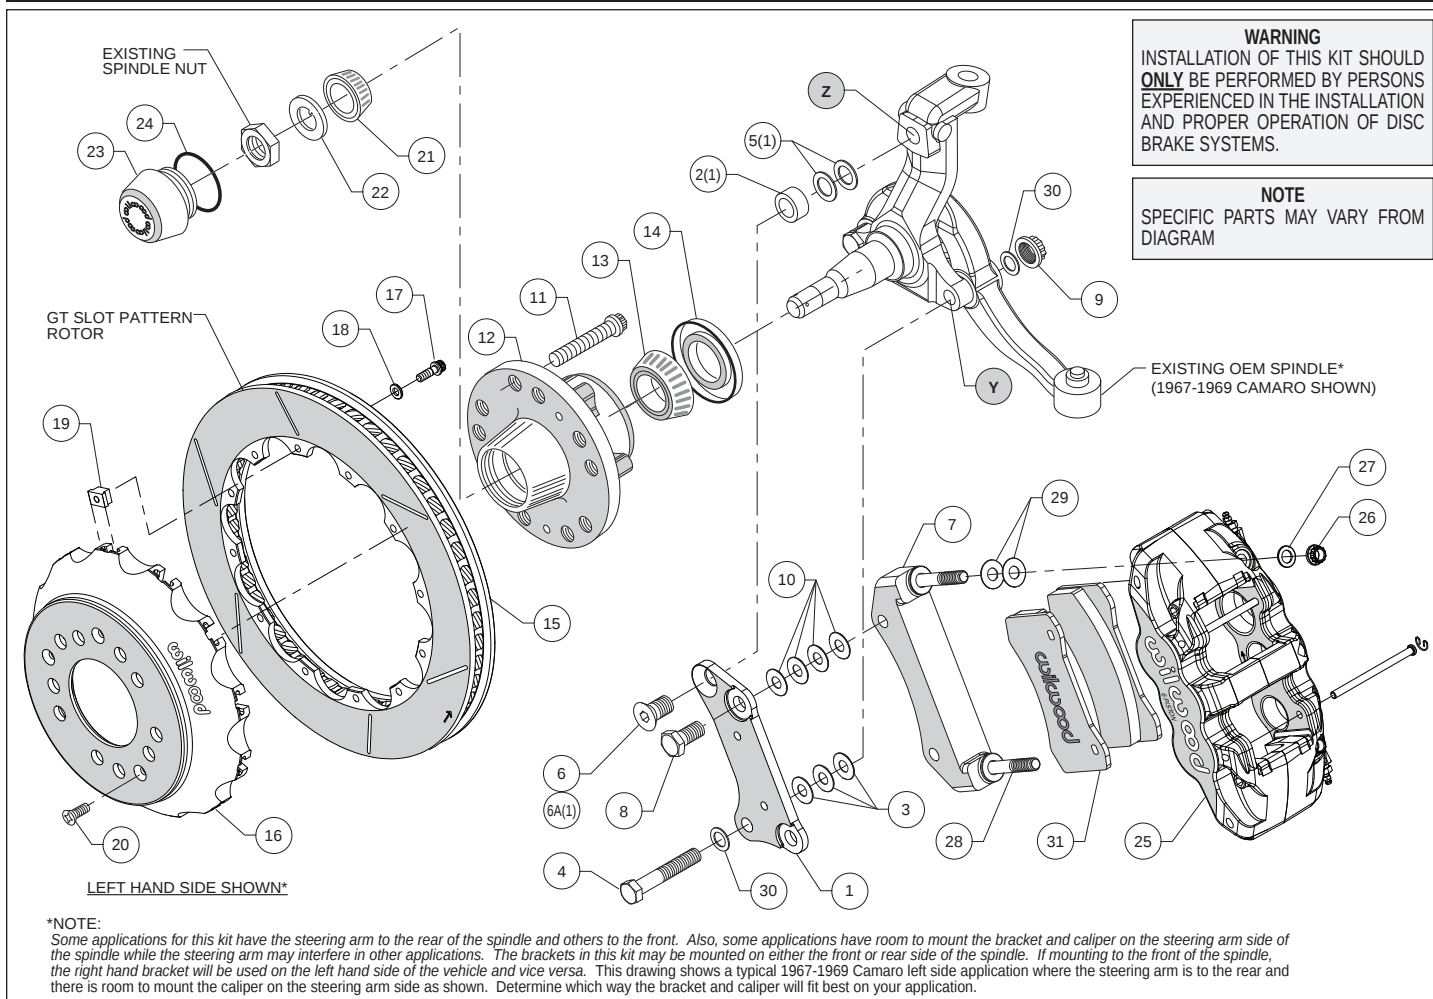
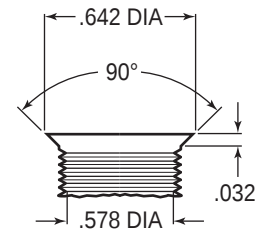
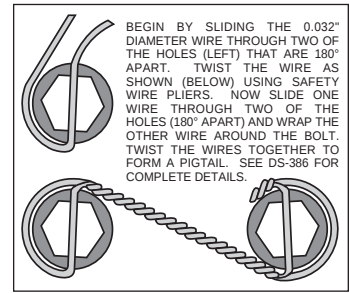

Figure 1. Typical Installation Configuration
Figure 3. Drill and Tap Detail
Figure 4. Safety Wire Diagram
Assembly Instructions (numbers in parenthesis refer to the parts list, and Figure 1 on the preceding pages):
•**NOTE:** Some applications for this kit have the steering arm to the rear of the spindle and others to the front. Also, some applications have room to mount the bracket and caliper on the steering arm side of the spindle while the steering arm may interfere in other applications. The brackets in this kit may be mounted on either the front or rear side of the spindle. If mounting to the front of the spindle, the right hand bracket will be used on the left hand side of the vehicle and vice versa. Figure 1 shows a typical 1967-1969 Camaro left side application where the steering arm is to the rear and there is room to mount the caliper on the steering arm side as shown. Determine which way the bracket and caliper will fit best on your application.
•**NOTE:** Some spindles in this year range may require the following modifications (reference Figure 1 and Figure 3): Top anchor pin hole (Z) must be drilled and tapped to the dimensions as outlined in Figure 3. The lower bolt hole (Y) in the spindle used to mount the new caliper bracket, and the mating steering arm hole, must be enlarged to .50" by drilling. It is recommended these modifications be performed by a qualified machinist.
•Install wheel studs (11) into the hub (12), Figure 1 and Photo 1. Torque to 77 ft-lb. **NOTE:** There are two five lug patterns in the hub (5 x 4.50 and 5 x 4.75). Ensure the correct hub stud pattern is being used to fit the wheel application.
•Pack the large inner bearing cone (13) with high temperature disc brake bearing grease (available from your local auto parts store) and install into the backside of the hub (12), Photo 2.
•Install the grease seal (14) by pressing into the backside of the hub (12), flush with the end of the hub, Photo 2.
•Orient the rotor (15) and the hat (16) as shown in Figure 1 and Photo 3. Attach rotor to hat using bolts (17), washers (18), and t-nuts (19). Using an alternating sequence, apply red *Loctite*® 271 to the threads, and torque to 120 in-lbs. Safety wire bolts using standard 0.032 inch diameter stainless steel safety wire as shown in Figure 4. Please refer to Wilwood's data sheet DS-386 (available at www.wilwood.com/Pdf/DataSheets/ds386.pdf) for complete safety wire installation instructions.
•**Disc Brake Spindle Application Only:** Follow the instructions below, but instead use bolt (6A), spacer (2), and two .050" thick shims (5) in the upper bolt hole location, Figure 1.
•Orient the flat bracket (1) as shown in Figure 1 and Photo 4, and install using bottom bolt (4), washers (30), and nut (9), Figure 1. Initially place three .032" thick shims (3) between the bracket and spindle. Install the upper bolt (6 or 6A), Photo 5. Temporarily tighten bolts. **NOTE:** The bracket must fit squarely against the mounting surfaces on the spindle. Inspect for interference from casting irregularities, machining ridges, burrs, etc. Temporarily install the hub and hat/rotor assembly. Check that the bracket is aligned parallel to the rotor, Photo 6. If not, adjust by adding or subtracting shims (3) on the lower bolt between the bracket and spindle, Figure 1. Once the bracket alignment is correct, remove the upper bolt (6 or 6A), apply red *Loctite*® 271 to the bolt threads, and torque to 140 ft-lb. Torque the lower lock nut to 65 ft-lb.
•The radial mount caliper bracket (7) should initially be installed with clean dry threads on the mounting bolts. Orient bracket as shown in Figure 1, and install using bolts (8). Initially place four shims (10) on each bolt between the two brackets. Temporarily tighten the mounting bolts. Later, after the caliper alignment has been checked, the mount bolts will be secured using red *Loctite*® 271.
•Pack the small outer bearing cone (21) with high temperature disc brake bearing grease and install into hub (12). Final install the hub assembly onto the spindle. Secure using spindle washer (22), and OEM spindle nut, Photo 7. Adjust bearings per OEM specifications. Install new cotter pin (not included).
•Screw dust cap (23) into hub (12), Photo 8. Friction created by the o-ring (24) on the dust cap keeps it from unscrewing. **NOTE:** The O.D. of the existing OEM spindle washer may be larger than the I.D. of the dust cap not allowing it to seat against the hub face. Therefore, use the spindle washer (22) supplied with the kit instead of the OEM washer.
•Final install the hat/rotor (15 and 16) onto the hub (12) taking care to align the small countersunk holes in the hat with the small threaded holes in the hub. **NOTE:** The hat must fit flush against the hub face or excessive rotor run out may result. Install three flat head screws (20) through the small holes in the hat (16), Photo 9, and torque to 85 in-lb.
•**NOTE:** This kit contains distinct right and left hand calipers that must be mounted in a specific direction, as described below. Lubricate the caliper mounting studs (28) with lightweight oil. Initially place two .030" thick shims (29) on each stud between the caliper and the bracket, as shown in Figure 1 and Photo 10. Mount the caliper (25) onto the bracket (7) using lock nuts (26) and washers (27), Figure 1. Ensure that the caliper is mounted so the largest pistons are at the rotor exit end of the caliper, in relation to the direction of rotor rotation. Temporarily tighten the lock nuts and view the rotor through the top opening of the caliper. The rotor should be centered in the caliper, Photo 11. If not, adjust by adding or subtracting shims (10) between the flat bracket (1) and the radial mount bracket (7). Always use the same amount of shims on each
- Remove the two pad retaining pins from the caliper (25) by carefully popping out the pin retaining clips and sliding out the pins. Insert the brake pads (31) into the caliper from the bottom, Figure 1, Photo 12. With the friction material facing the rotor, secure the brake pads in place with the pad retaining pins and clips, Photo 13. Reinstall the caliper onto the caliper mounting bracket and temporarily tighten the lock nuts. Check that the top of the brake pad is flush with the outside diameter of the rotor, Photo 14. If not, adjust by adding or subtracting shims (29) between the caliper and the bracket. After the caliper pad height is set, torque the caliper lock nuts (26) to 47 ft-lb.